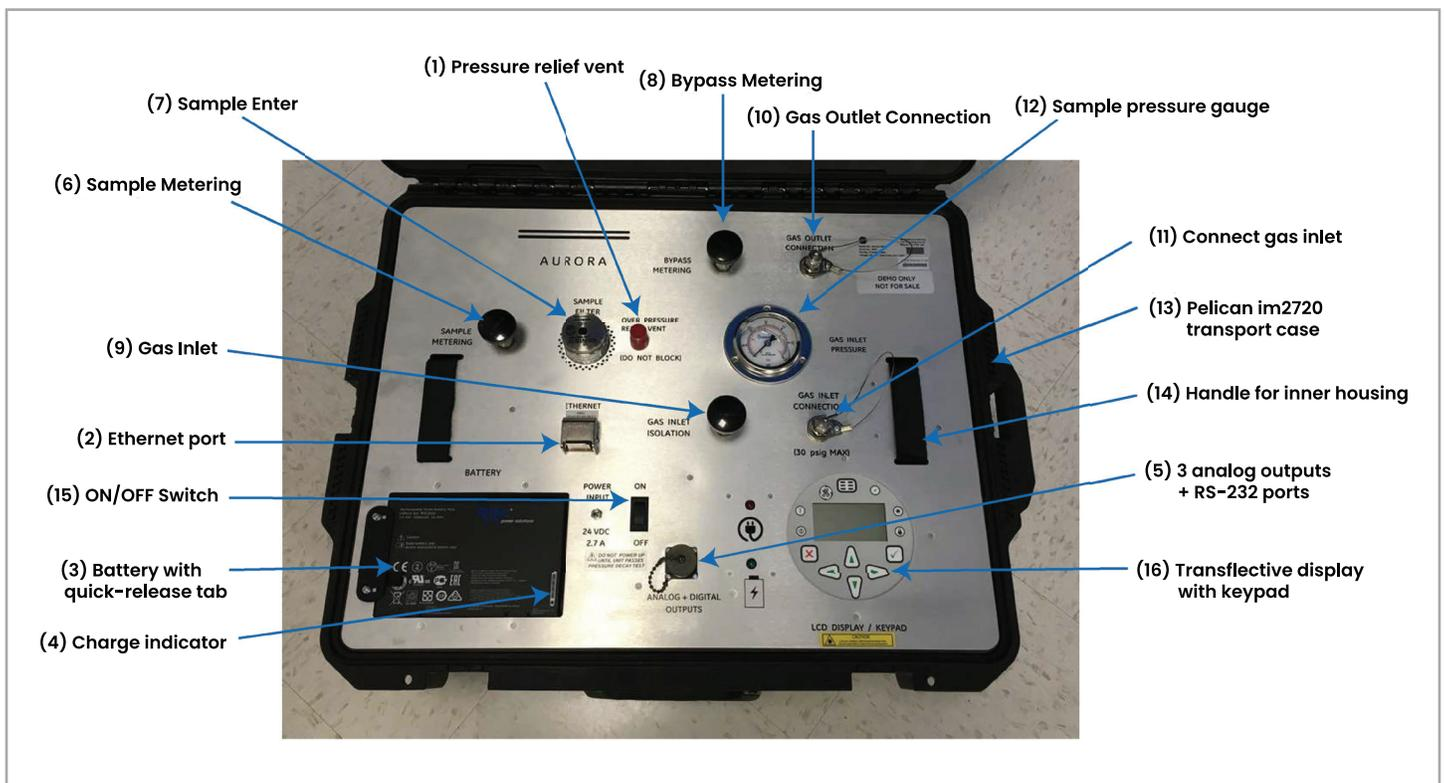

Figure 4: Front panel of BHGE Aurora TransPort
Refer to Figure 4 below to locate components referenced in the startup guide.
1. Ensure the Pelican transport case (13) is lying flat and horizontal on a stable surface before opening the cover.
2. Install the Li-ion battery shipped with the unit into battery slot after loosening tab (3) on left with orientation as shown in Figure 4.